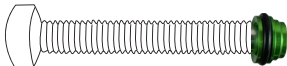

Fig 3
- While the glue is still wet, insert the end cap, with pointed side down, into the arrow shaft. Push the tool until it is flush with the arrow shaft. (Fig. 3)